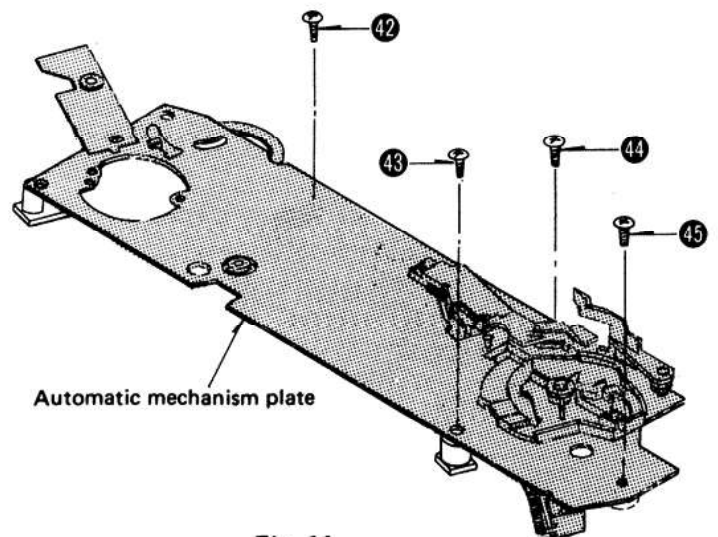

Fig. 11
4. Remove the mechanism plate setscrews 42 ~ 45. Then, the mechanism plate can be removed. (See Fig. 11)